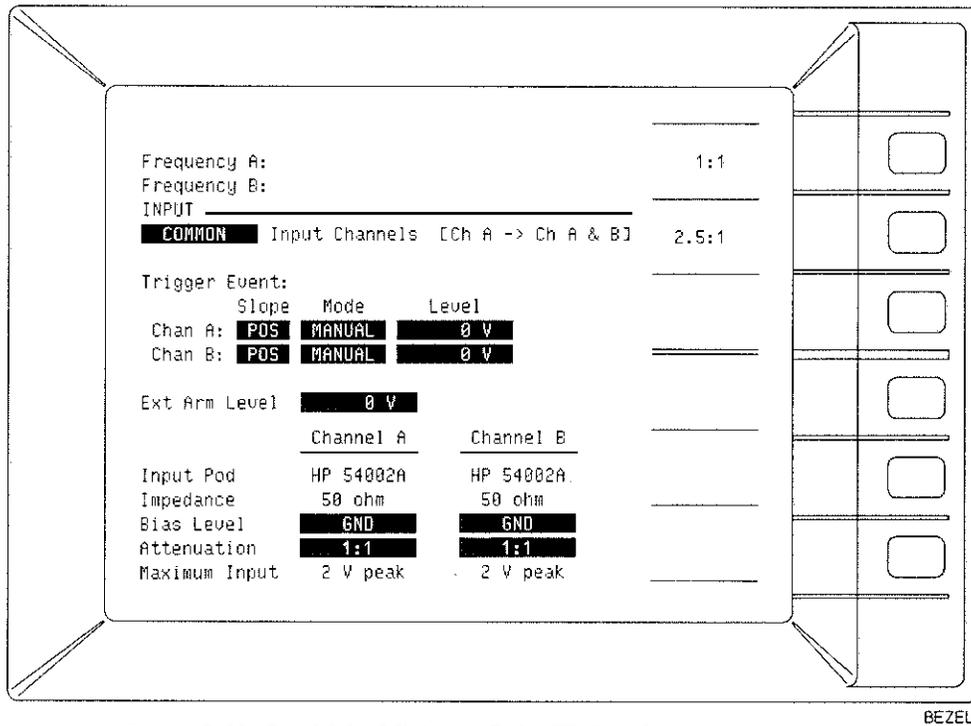

Figure 2-12. Sensitivity/Minimum Pulse Width INPUT Screen Display
- M. Press the **1:1** softkey. (The HP 5371A front-panel CRT display should appear as in *Figure 2-12*.)